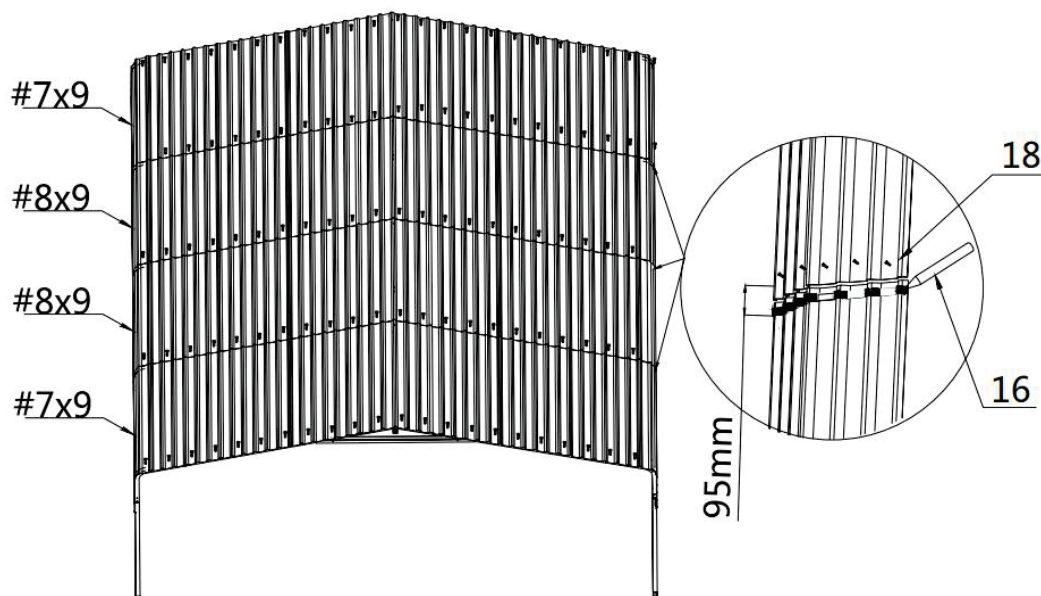

Figure 9
- Install all color iron tiles in turn, make sure that both ends of each color iron tile are aligned, and apply waterproof silicon sealant (#16) on the butt joint of both ends (refer to Figure 9)